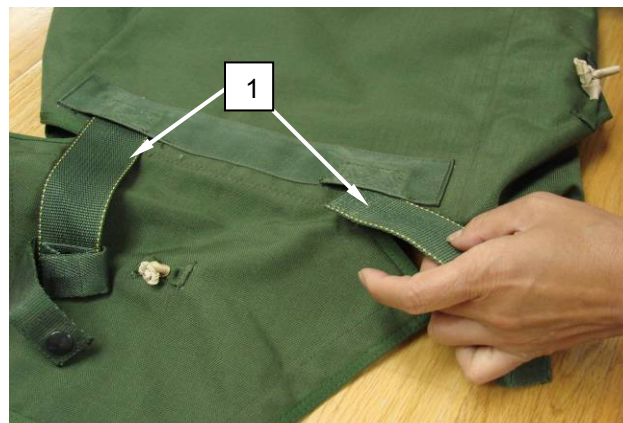

Figure 31. Removing of Adjustment Straps.
3. Remove both adjustment straps (Figure 31, Item 1).